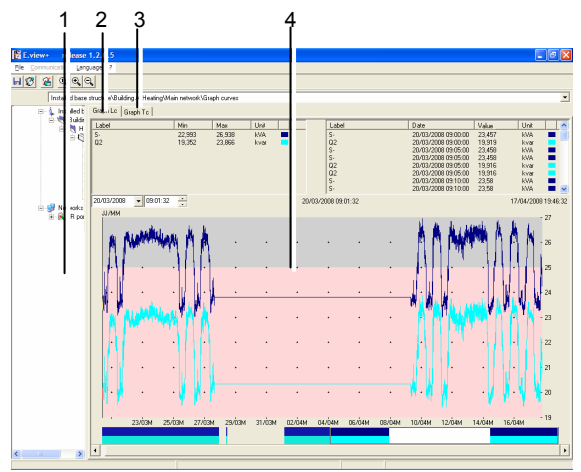

Figure 20-2: example of "Graph. curves" window when called.
1. In the architecture (Figure 20-2, ref. 1) select the line *Graph. Curves* of the device for which the information stored in the database has to be displayed.
- **load curves**, click if required on the *LC Graph* tab. (Figure 20-2, ref. 2). See details in paragraph 20.4.
- **record curves**, click if required on the *RC Graph* tab. (Figure 20-2, ref. 3). See details in paragraph 20.5.